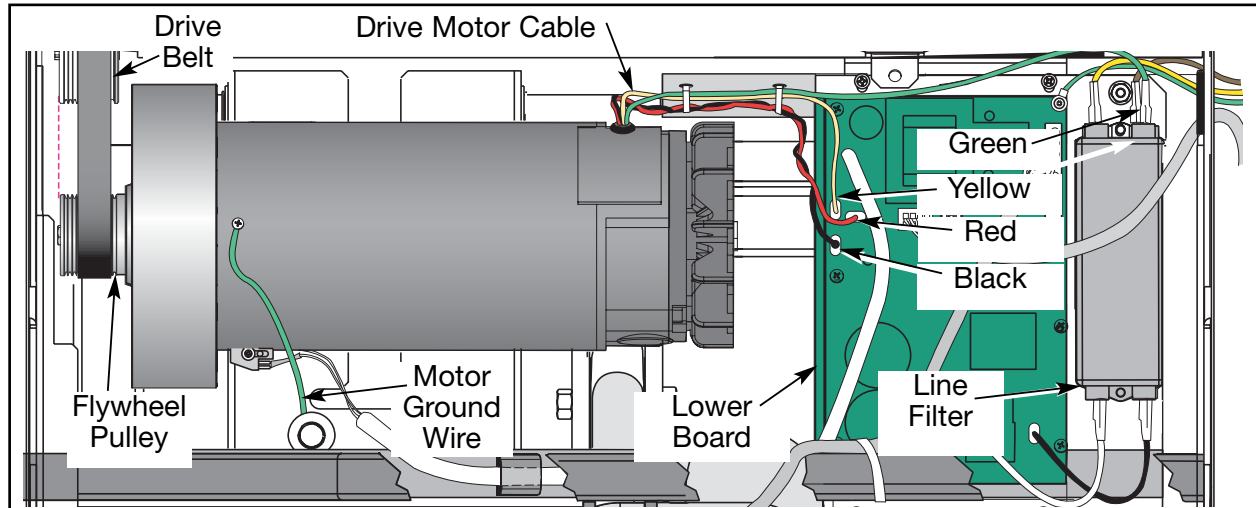

Figure 13
- B.** Slip the drive belt around the flywheel pulley and off the motor. See Figure 13.
- A.** Using a 1/2" socket wrench, remove the screw, split washer, flat washer and motor ground wire from the motor saddle. See Figure 13.
- C.** Disconnect the motor cable from the lower board and line filter. **NOTE:** You will disconnect four wires (red, black, yellow and green). See Figure 13.
- A. Connect the motor cable to the lower board and line filter as shown in Figure 13 (red to A1, black to A2, yellow to BW and green to the line filter). **NOTE:** For internationally installed treadmills only, the green cable goes on the ground stud tab.